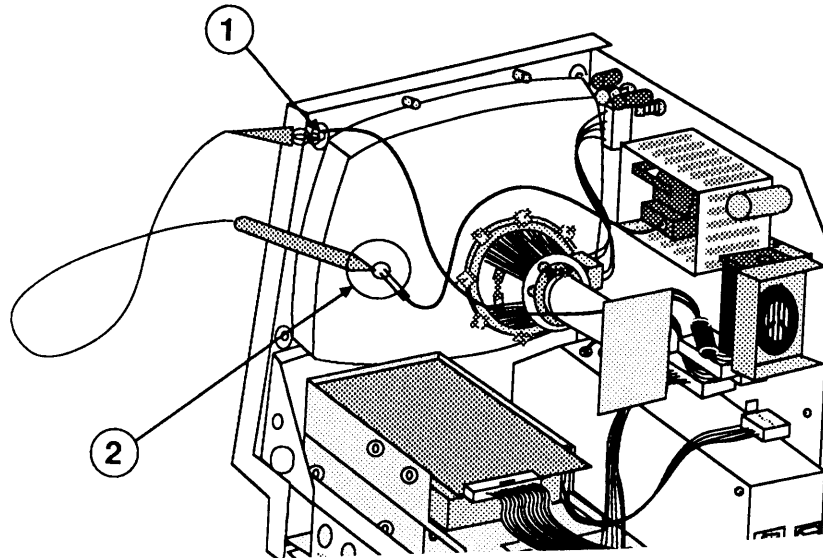

FIGURE 5
4. Attach the alligator clip on the CRT discharge tool to the metal part of the **ground lug** (Figure 5, #1).
CAUTION: Discharge the anode to the metal part of the ground lug displayed in Figure 5, #1. **Failure to do so will damage the main logic board and/or the analog board.**
6. Hold the CRT discharge tool to the tube surface, and insert it under the anode cap (Figure 5, #2) until it touches the anode ring.